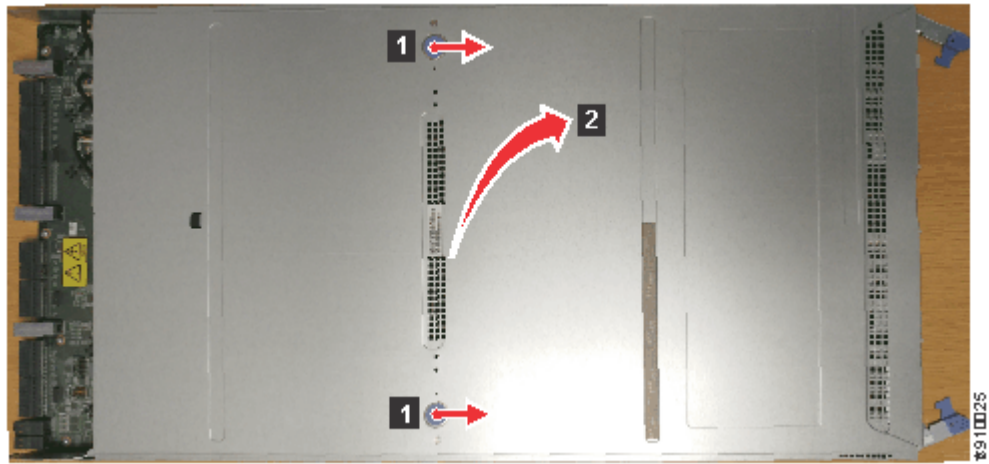

Figure 72. Removing the node canister cover
3. Open the cover of the node canister by depressing the recessed, blue touch points on the lid (1) and sliding the lid away from you (2), as shown in Figure 72 on page 125.